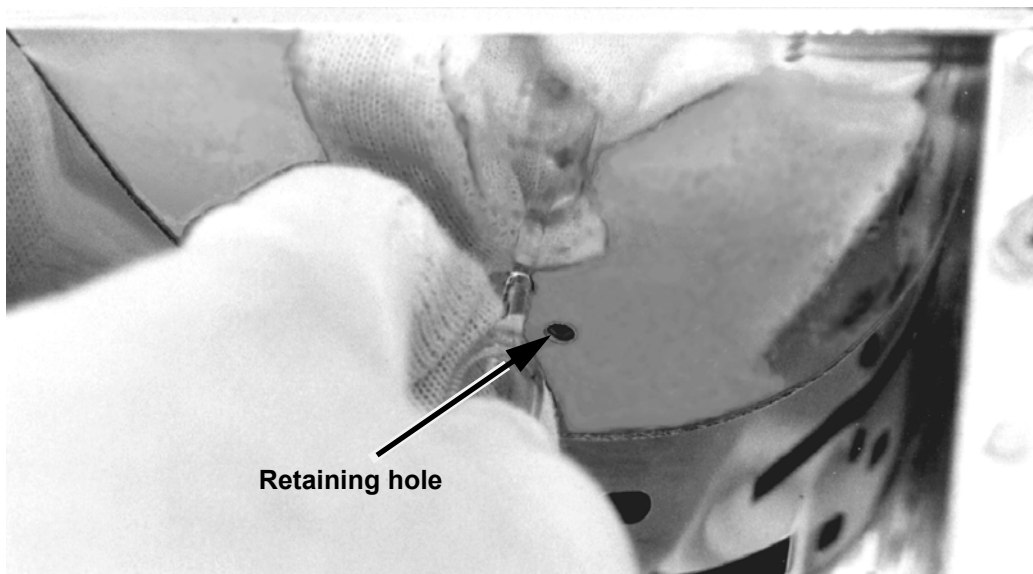

Figure 32. Removing or Replacing the Bulb (I310M/I311M)
2. Refer to Figure 32 on page 94. Using clean cotton gloves or lint free tissue, grasp the lamp bulb at one end between the thumb and fingers and apply firm pressure axially toward the opposite end. When the tip of the bulb has cleared its retaining hole and is free to move past or along the end reflector, gently slide it up and out.